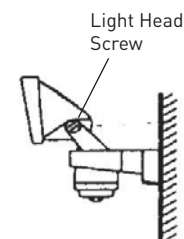

Fig. 23
- Loosen plastic light head screw by hand (See Fig. 23).